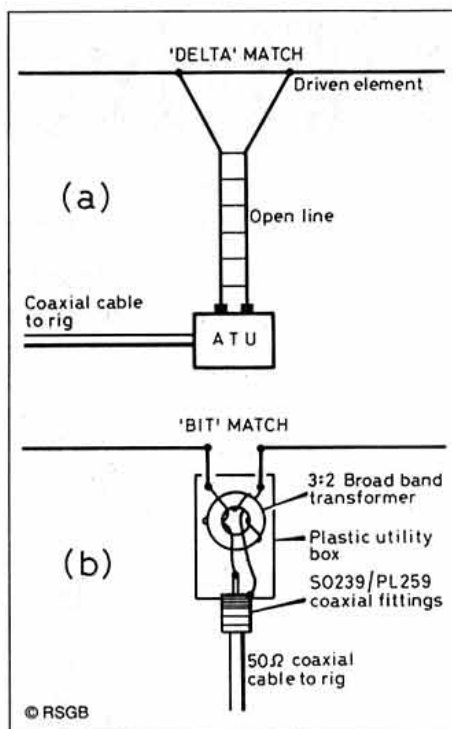

Fig 2: Preferred feed methods.
a) **Delta Match:** Probably the simplest system is the Delta Match **Fig 2(a)**. This involves taking open wire line up to the beam, the ends being played out and joined to the (continuous) driven element at points equidistant from the centre. The triangle so formed should have roughly equal sides: I found that sides as short as 1/20th wavelength (ie just under 4ft at 20m) worked well. When changing bands one can opt to reduce this but in practice these dimensions are very uncritical. I have used this matching system for many experimental beams and found it excellent. How-
e) **The 'BIT Match':** All of the above methods are frequency sensitive and need re-adjustment every time the beam is set to a new band. Although element lengths for each band must be changed I confess that I didn't want to do more work than is really necessary. If W6SAI is right and the impedance of the driven element is around 20ohms then a transformer will do the job. A linear matching section as mentioned above is one such. But there is no reason why a 'Broadband Isolating Transformer' should not give just as good a match. Hence the 'BIT Match'. Such a transformer is very easily made. The BIT Match shown in **Fig 2(b)** consists